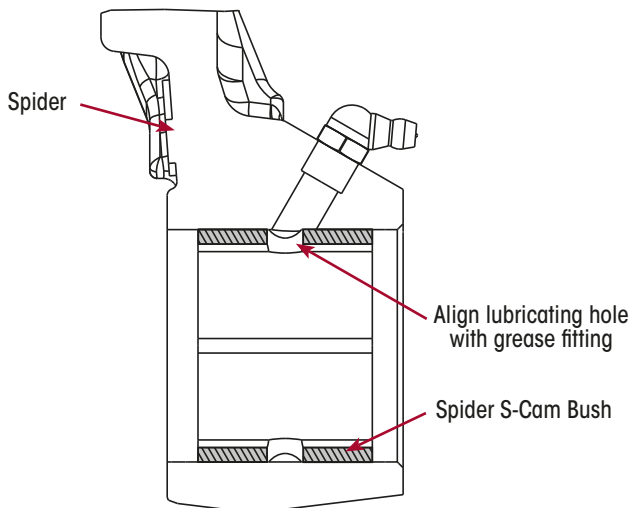

Figure 85: Spider S-Cam Bush installation
4. Orient the new bush so its lubrication hole aligns with the grease fitting in the spider. Refer Figure 85.